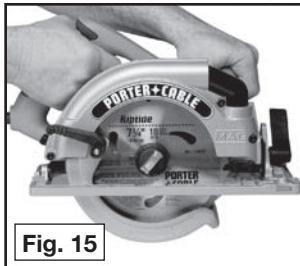

Fig. 15
**⚠WARNING** For your maximum protection, effective control of this powerful saw requires two-handed operation. Support the work properly and hold the saw firmly to prevent loss of control which could cause injury. See Fig. 15 for the proper way to hold the tool.